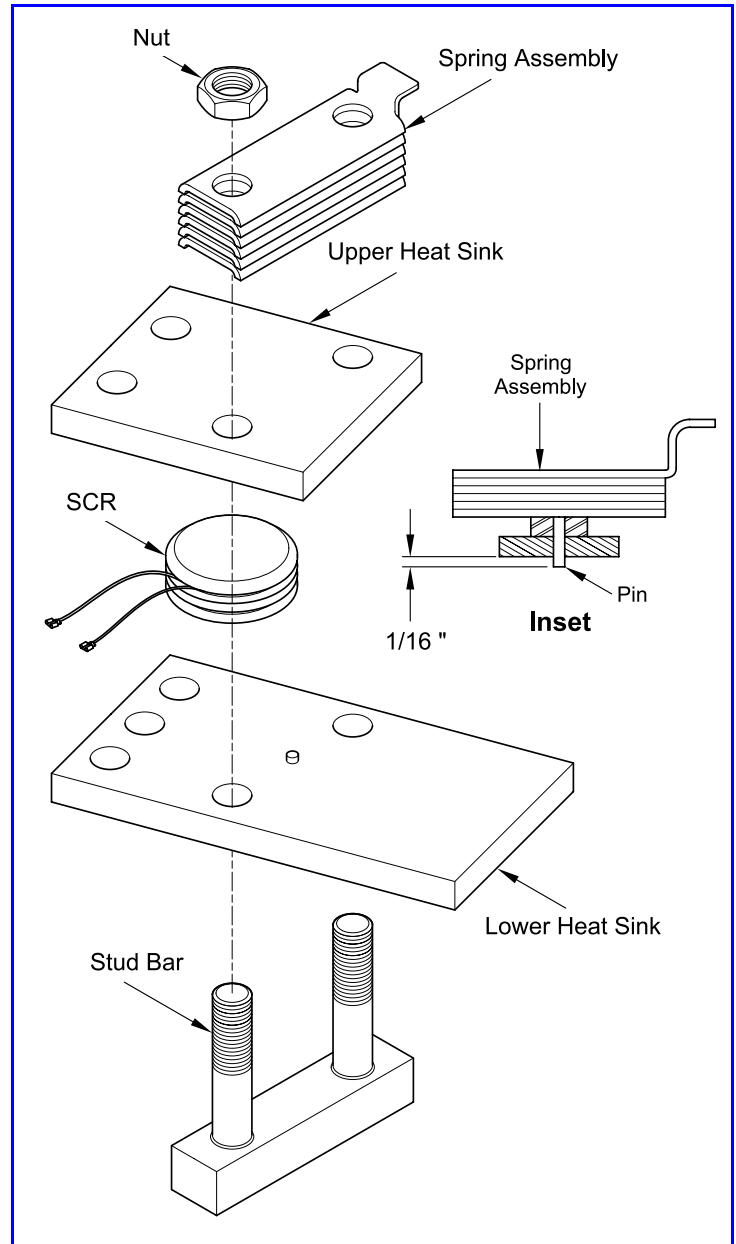
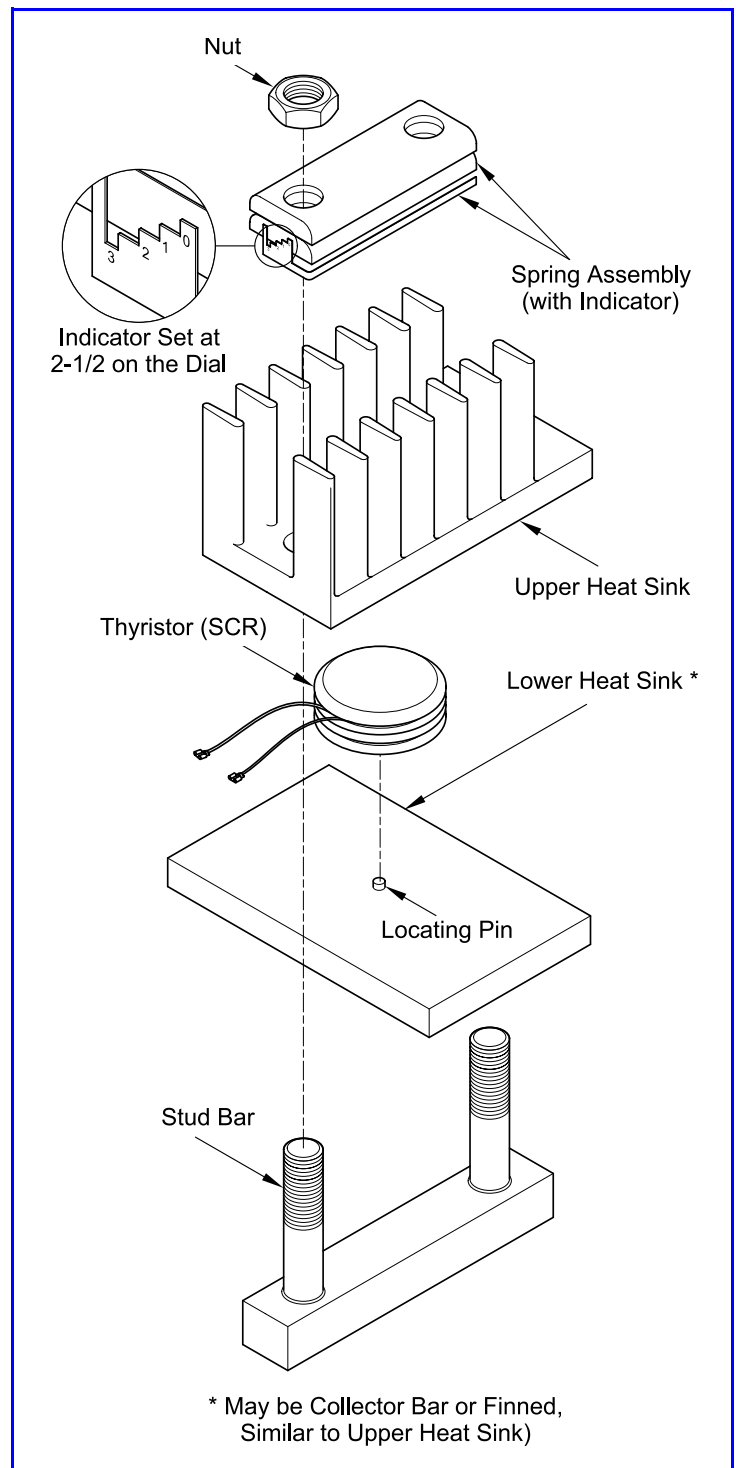

Figure 39 Typical SCR Assembly
Figure 40 Typical Thyristor Assembly
A defective SCR can be replaced as follows. See **Figure 39**.
8. Coat the threads of the stud bar with **Never-Seez** lubricating compound, if not already coated. Check to see that the indicator of the spring assembly (see **Figure 40**) reads zero against the spring clip. Place the leaf assembly over the upper heat sink with the assembly pin protruding 1/16" through the heat sink hole. (See Inset on **Figure 39**).
C. For the PEC thyristor numbers below, the desired force is measured on the spring assembly indicator. See **Figure 40**.
A defective SCR can be replaced as follows. See **Figure 40**.